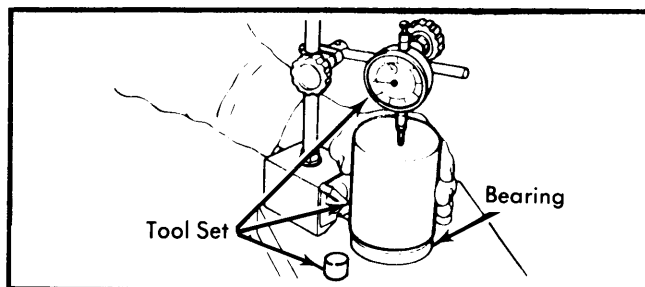

Fig. 3 Measuring Side Bearing Thickness
2) Lightly oil gear tooth areas and all thrust surfaces, then check that gears turn freely and smoothly. Fit ring gear on differential case, tighten bolts in diagonal manner and bend over lock tabs. If side bearing is to be replaced, measure thickness of new ones using suitable tool set as shown in Fig. 3. Normal bearing thickness should be as specified. Using a press, seat side bearing cone into differential case.